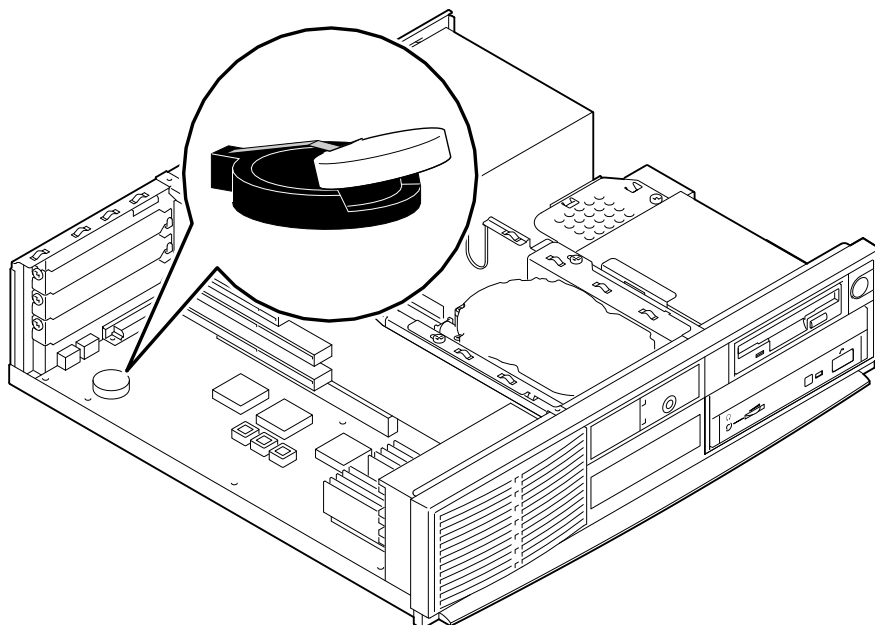

Figure 3-22. Replacing the Battery
1. Gently pry the old battery from the battery holder, as Figure 3-22 shows.